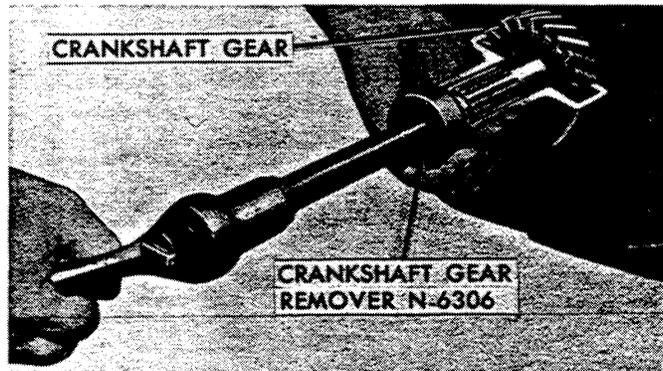

Figure 41
1. Remove the crankshaft gear with Remover 6306-AE as shown in Figure 41.